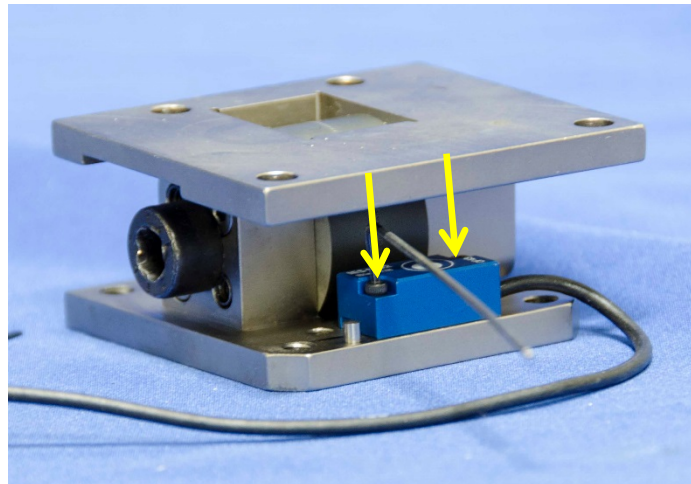

Figure 5-27. Attach tilt sensor to neck pitch change mechanism
- 5.2.2.18 Secure the Dual Axis Tilt Sensor (SA572-S44) to the Neck Pitch Change Mechanism Top Plate (472-3636) using two M2 x 0.4 x 10 SHCS (Figure 5-27).